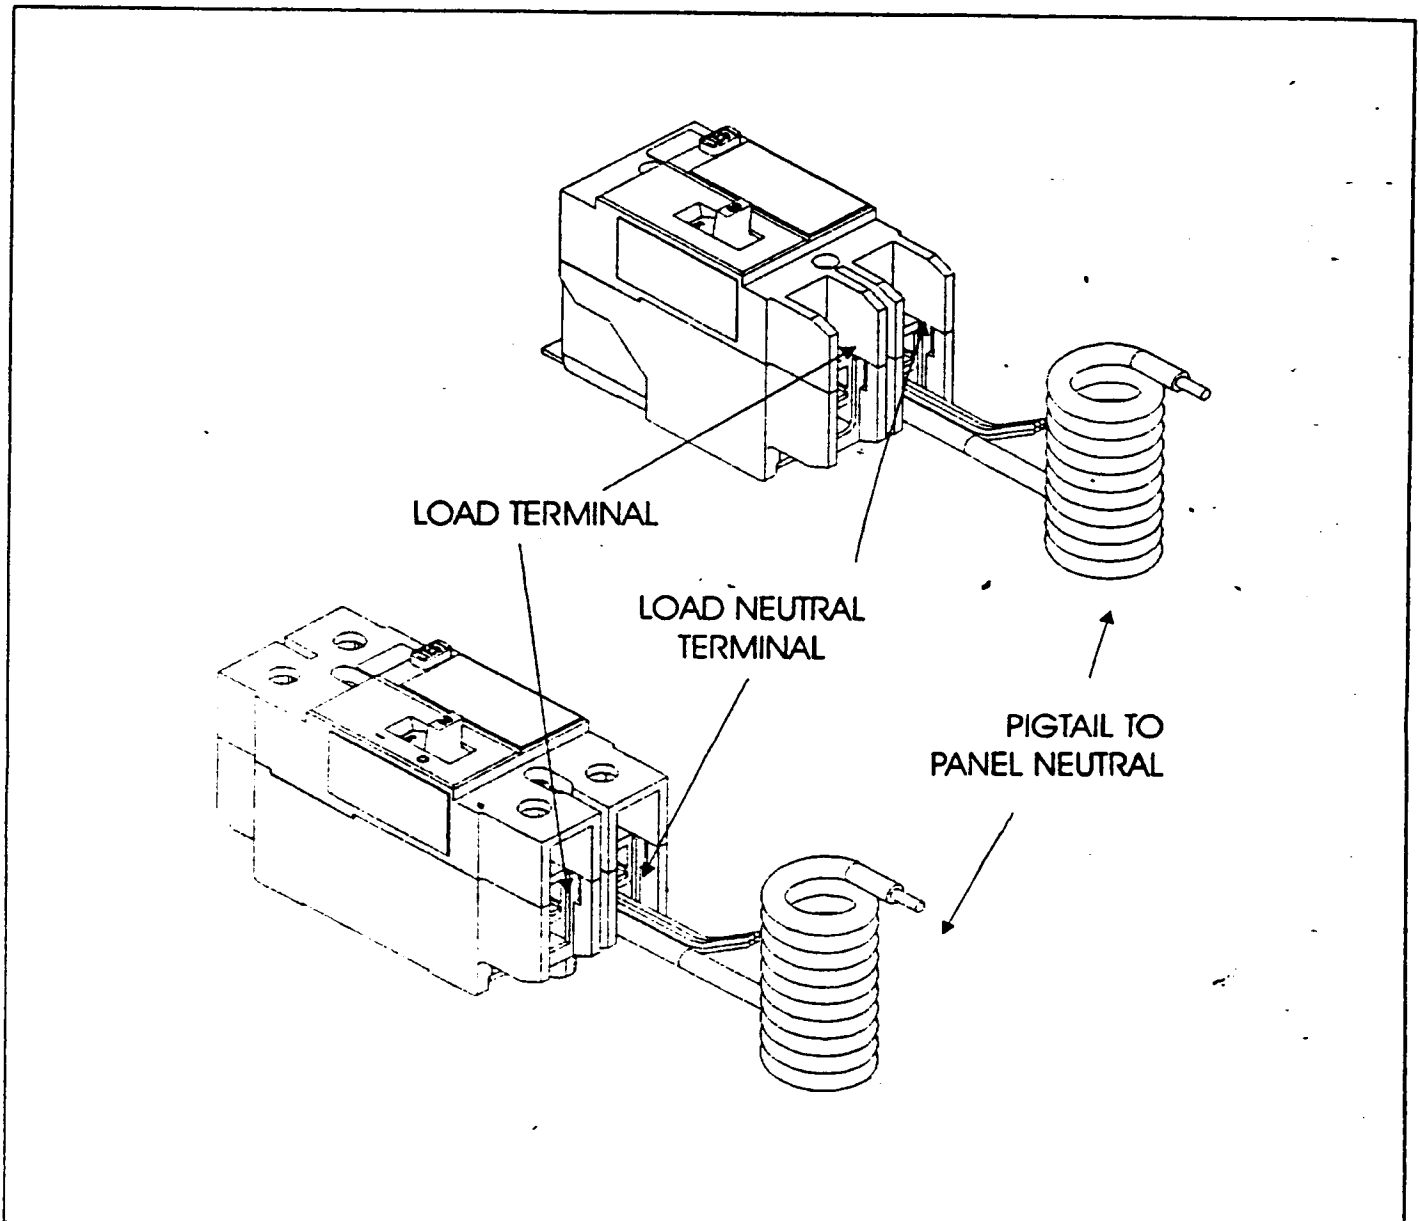

Figure 1. Ground Fault Circuit Breaker Connection Diagram
4. Bolt the ground fault circuit breaker into the desired pole position (See Fig 1).